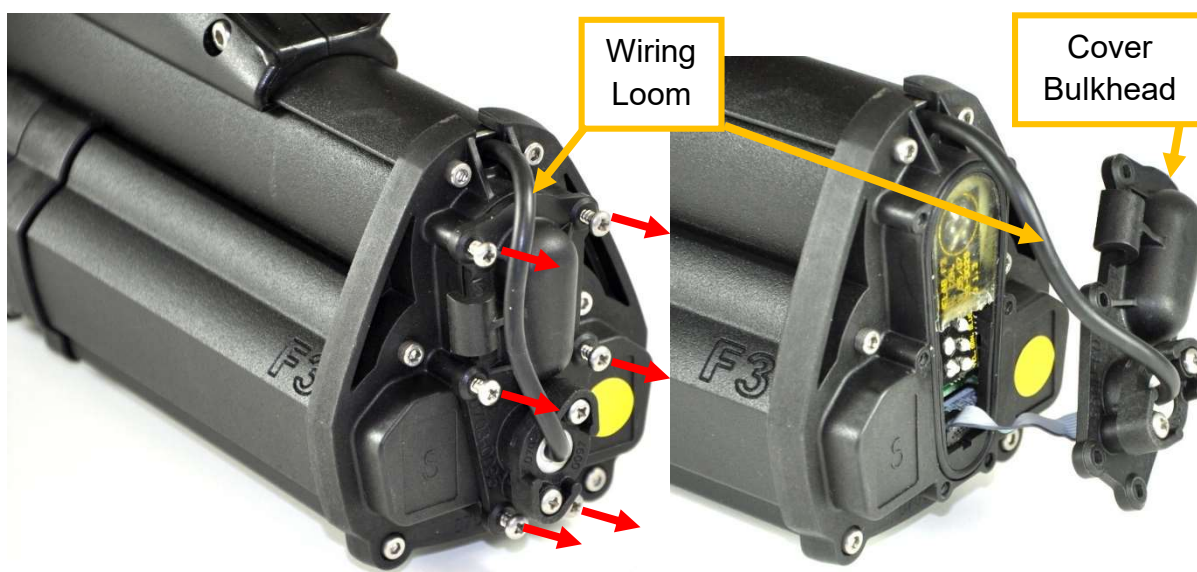

Figure 49: Removal of Cover Bulkhead from the Electronics Pack.
- Undo and remove the six screws holding the bulkhead cover to the electronics pack rear panel. Shown in Figure 49.